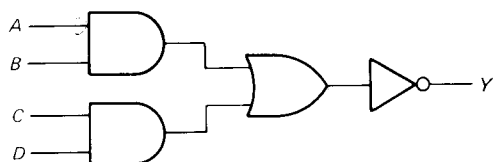

Fig. 2-24
- 2-21.** What is the boolean equation for Fig. 2-24? How many ABCD input words are in the truth table? Which input words does the circuit recognize?